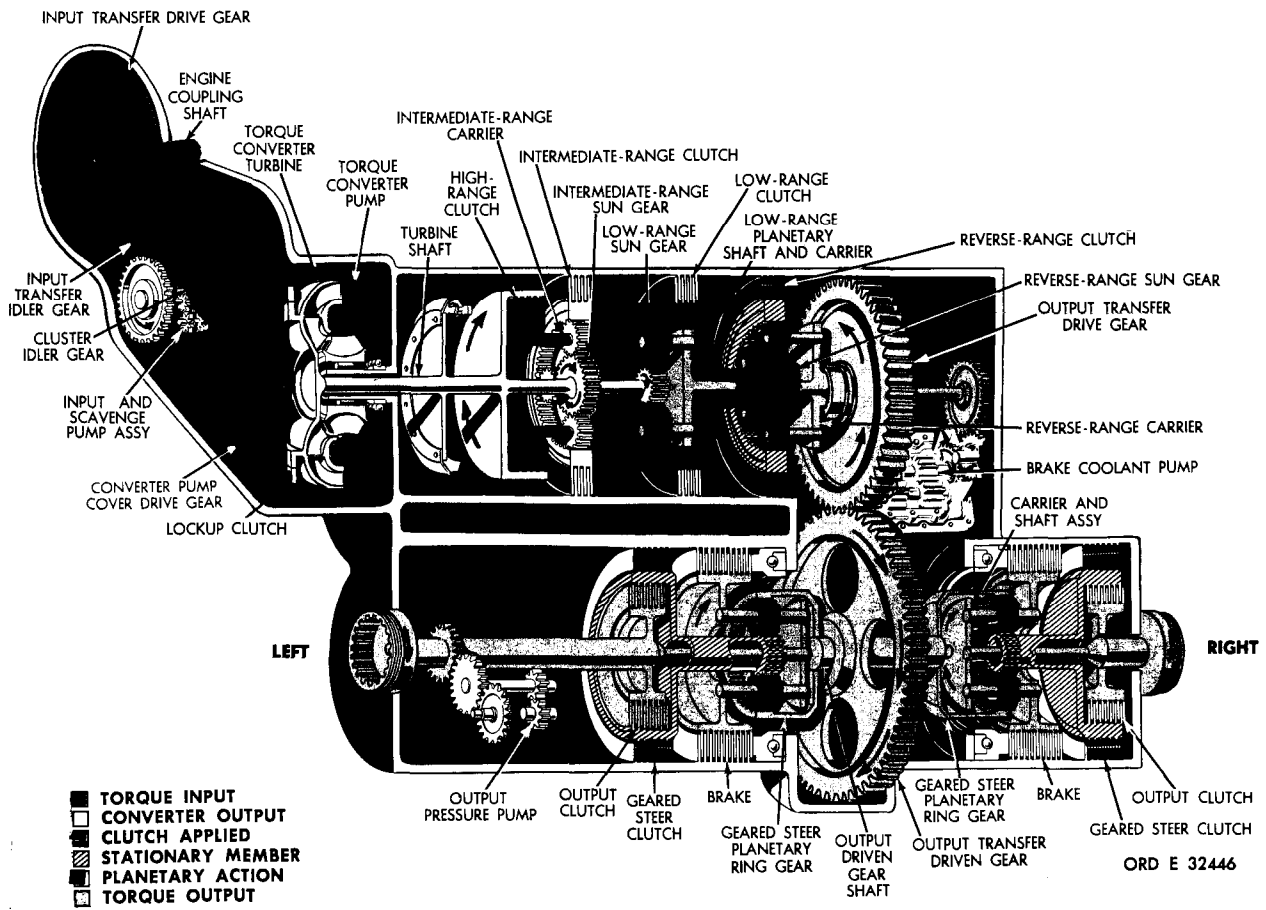

Figure 27. Reverse 1-gear torque path, converter operation
51. TORQUE PATH - REVERSE 1 GEAR, CONVERTER OPERATION (fig. 27)